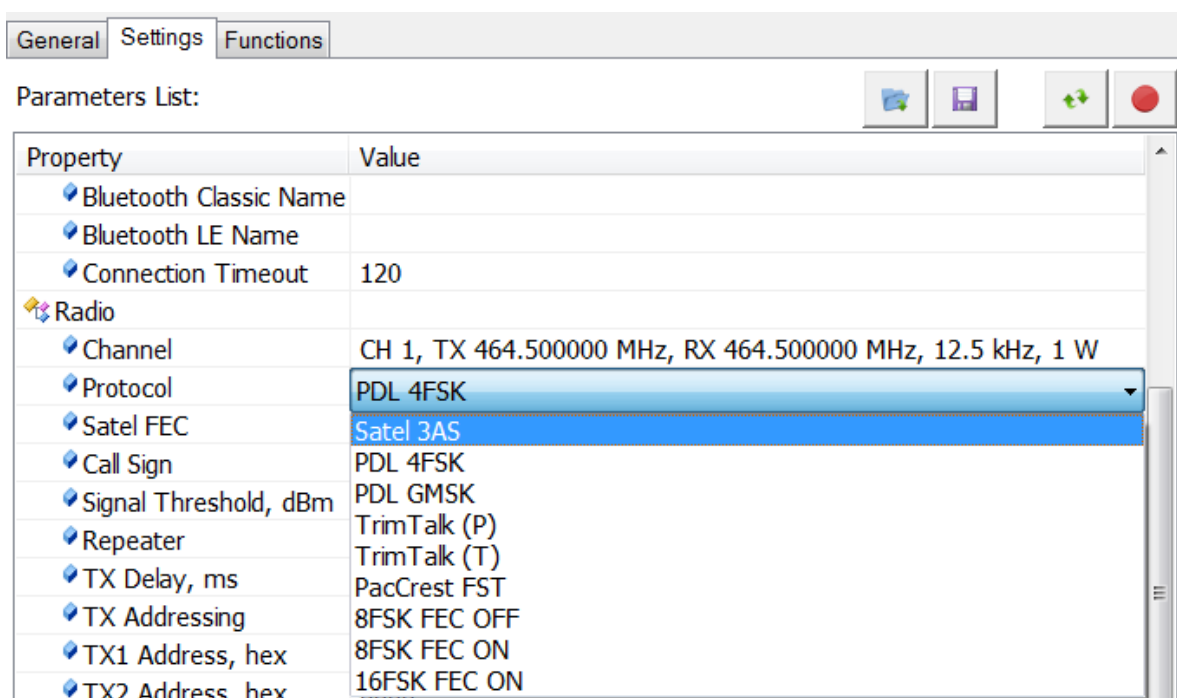

Figure 4: SRU Settings Tab
- Click on the **Settings** tab (Figure 4) to view these results.